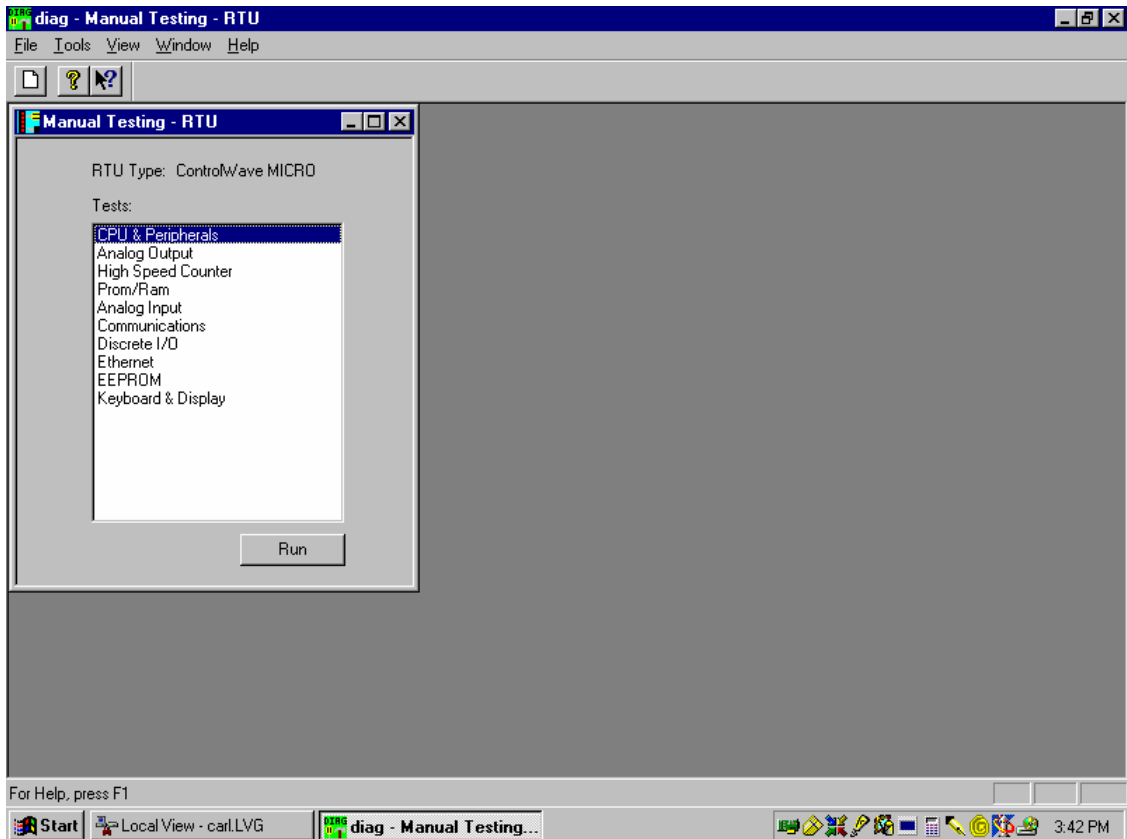

Figure 3-8 - WINDIAG Main Diagnostics Menu
3. Once WINDIAG has been entered, the Main Diagnostics Menu of Figure 3-8 will appear.
All **ControlWave EFM** Modules except the System Controller Module can be tested using the WINDIAG program. From WINDIAG's Main Diagnostics Menu (see Figure 3-8) the following diagnostic tests can be performed: